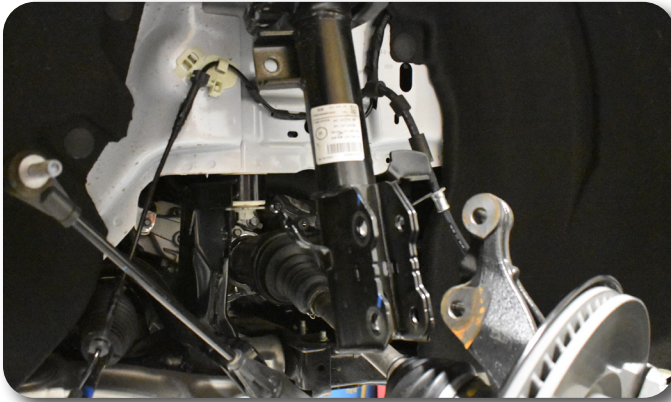

Figure 7A
11. Once your ABS line, brake line and knuckle are disconnected from the bottom of the strut support the weight of the strut while you remove the 3 upper strut mounting bolts from under the hood. **Figure 7A/7B. DO NOT** remove the center strut rod nut.